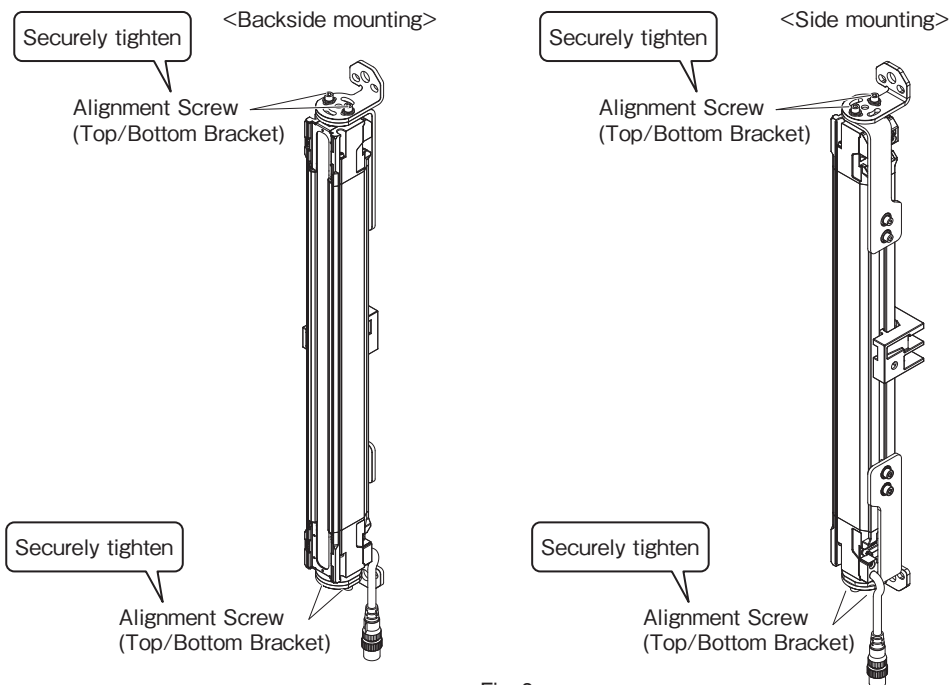

Fig. 8
7. Securely tighten the Alignment Screw of the Top/Bottom Bracket to fix the bracket to the sensor housing. The recommended torque to tighten the Alignment Screw is 3.0 N•m. (Fig. 8)